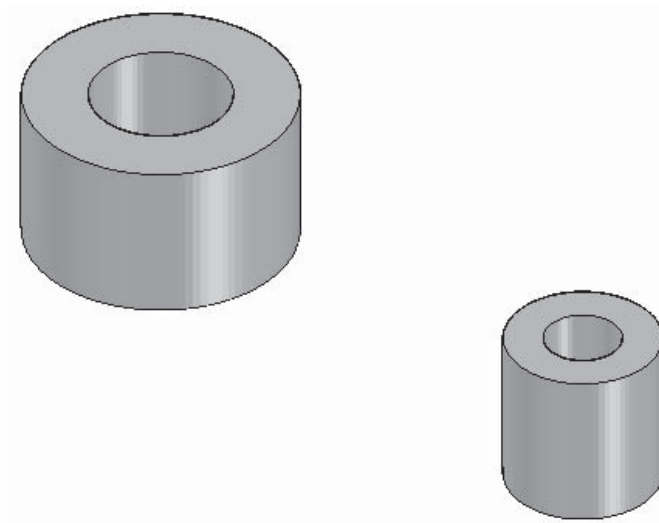

Figure 4-68 Base feature of the model
- Create the base feature on the x-y plane, refer to Figure 4-68.
- Exit the sketching environment and then extrude the sketch symmetrically through a distance of 25 units. The base feature of the model is shown in Figure 4-68.